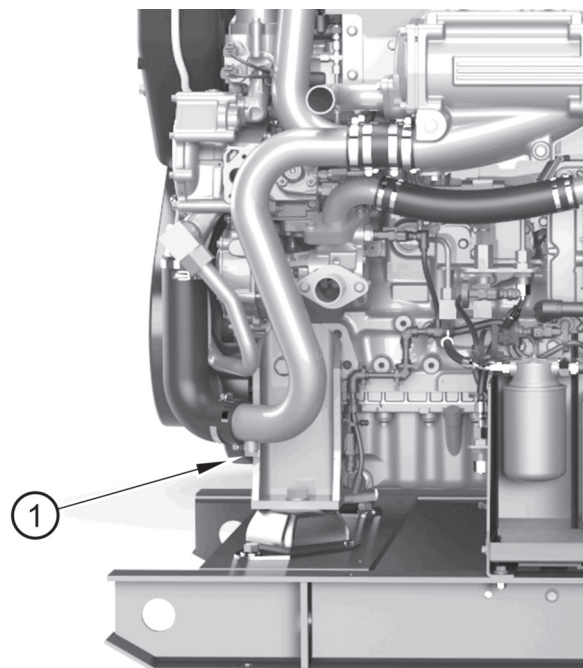

Figure 6
2. Remove the drain plug (figure 6 item 1) from the heat exchanger pipe.